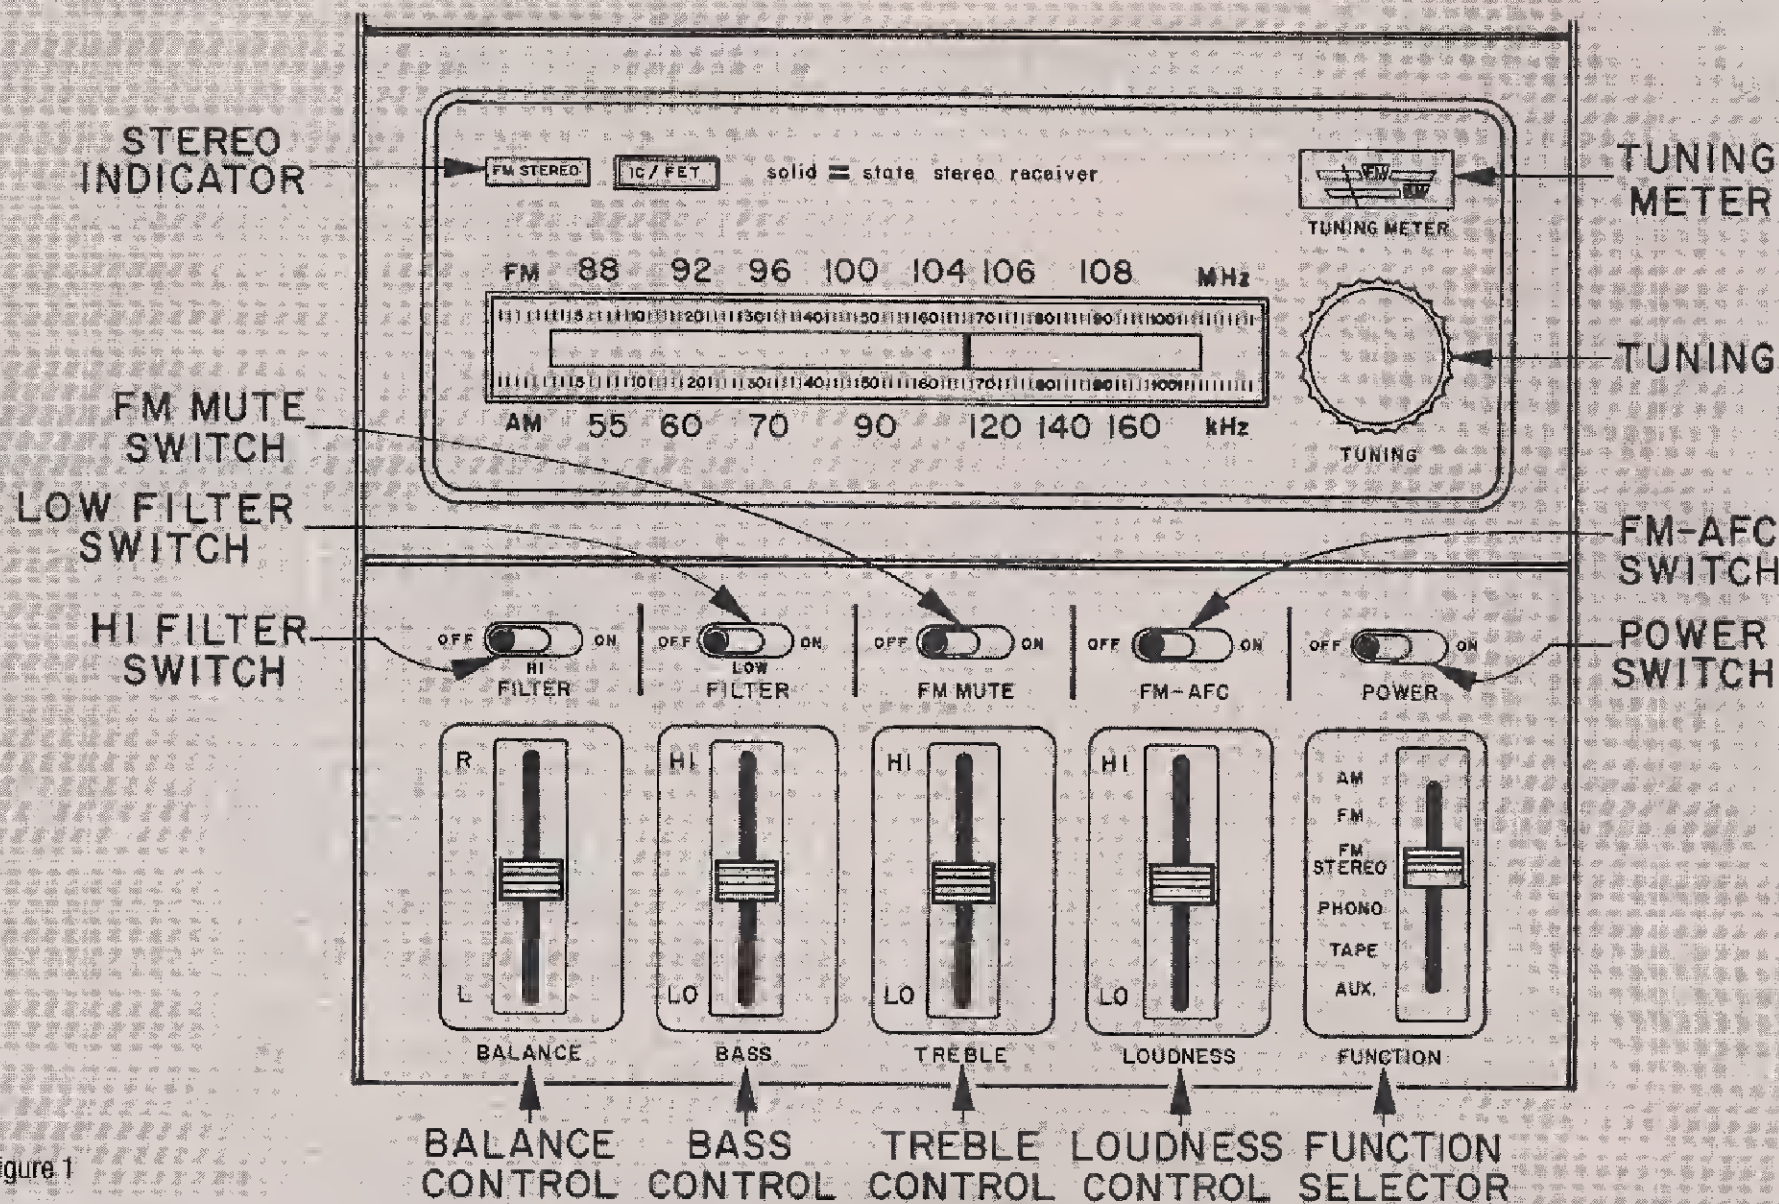

Figure 1
TUNER/AMPLIFIER SECTION— CONTROLS AND TUNING (Fig. 1)
Mode Selector (STOP, START, AUTO) on the record changer will control power to the changer and, if the POWER Switch (Fig. 1) is off, to the main unit.
7. Adjust LOUDNESS, BASS and TREBLE Controls (Fig. 1).